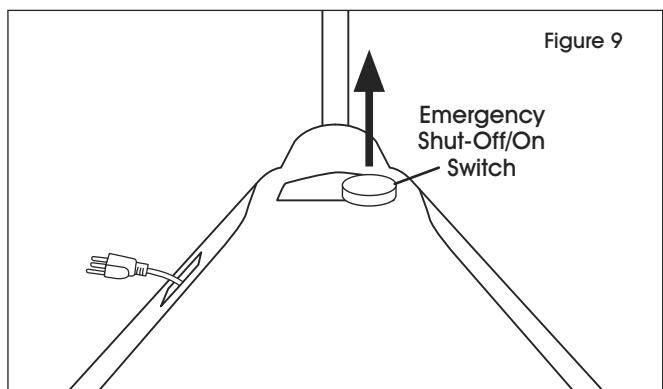

Figure 9
6. Pull UP emergency shut-off/on switch into the ON position. (See Figure 9)